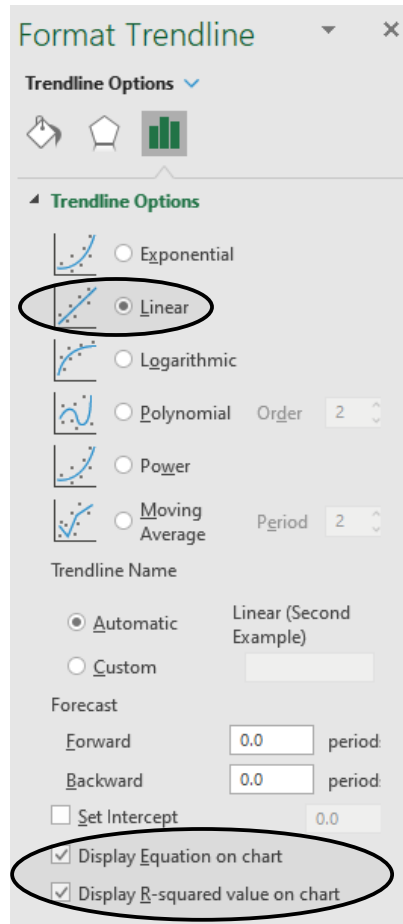

Figure 22: *Format Trendline* toolbar with *Linear* trendline style, *Display Equation on chart*, and *Display R-Squared value on chart* are circled
**Right-click** on any of the data points in a series, then select **Add Trendline**. This will bring up the trendline toolbar as seen in Figure 22, where the style of trendline can be changed in the **Trendline Options**. For APSC 101 and APSC 102, **Linear** is the most common type. To show the equation and correlation coefficient, check the boxes for **Display Equation on Chart** and **Display R-Squared Value on Chart**. The name of the trendline can be adjusted by selecting the **Custom** option and typing in the corresponding textbox in the **Trendline Name** menu.